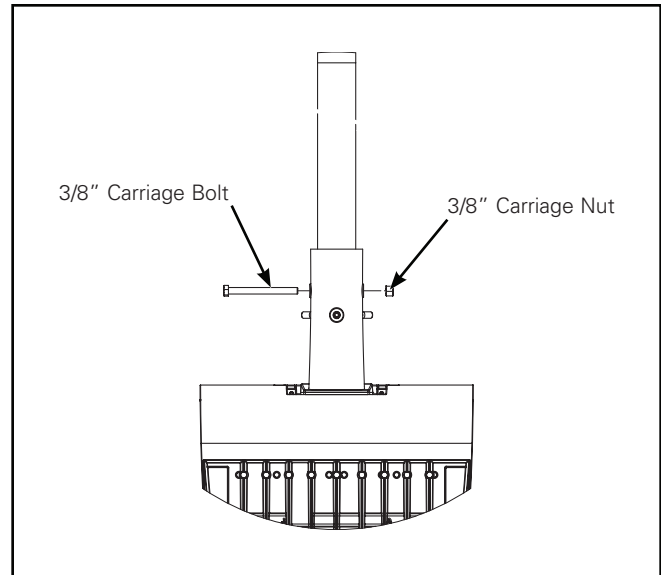

Figure 6.
3. Drill a 7/16" hole through the mast arm and install the 3/8" carriage bolt and nut and tighten to 200 in lbs. (Figure 6).